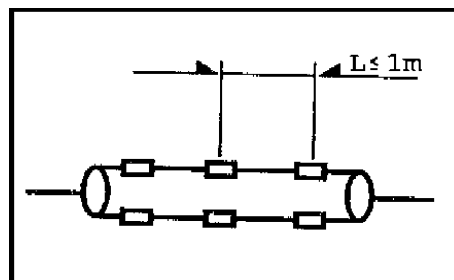

Figure 4
- Mounting clips, suction cup should be evenly spaced and both be a maximum of 1M apart.(Figure 4)